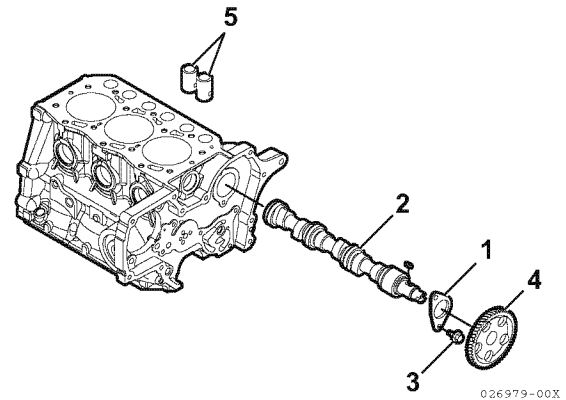

Figure 6-46
2. Remove two bolts (Figure 6-46, (3)) retaining the camshaft thrust plate (Figure 6-46, (1)).
3. Extract the tappets (Figure 6-46, (5)) through the top of the cylinder block. Mark the tappets so they can be installed in the same location.
4. Slowly pull the camshaft (Figure 6-46, (2)) assembly out of the engine, being careful not to damage the front camshaft bushing.
5. Remove the camshaft gear (Figure 6-46, (4)) only if the gear or camshaft require replacement. Use a knife-edge puller and a press to remove the gear. The gear is a shrink-fit and will need to be heated to 356° to 392°F (180° to 200°C) to remove.